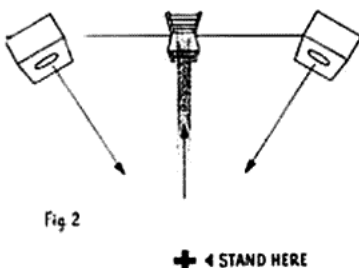

Fig 2
4. Stand before the speakers facing a point midway between them. (Fig. 2)